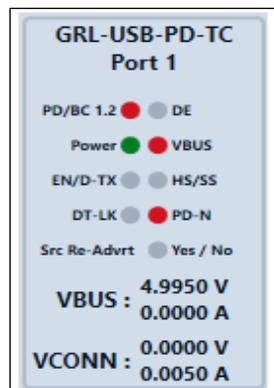

Figure 26. Port in Attach Mode
4. Click on the **Attach** button to establish the connection between the DUT and Device. See Figure 26 below.